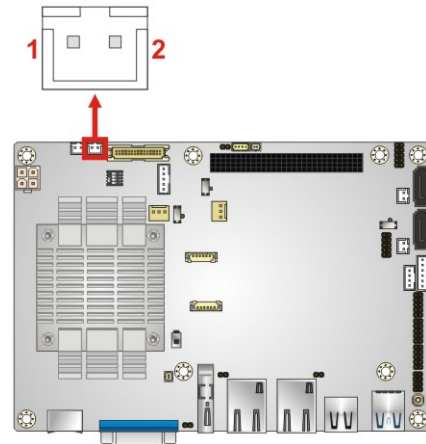

Figure 3-21: Power Button Location
- CN Location:** See Figure 3-21